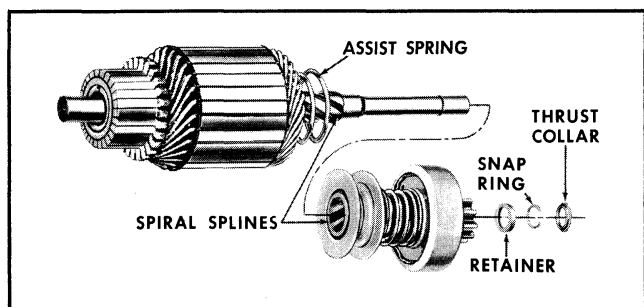

Fig. 11-10 Armature and Overrunning Clutch Assembly
a. Slide thrust collar (Fig. 11-10) off end of armature shaft.